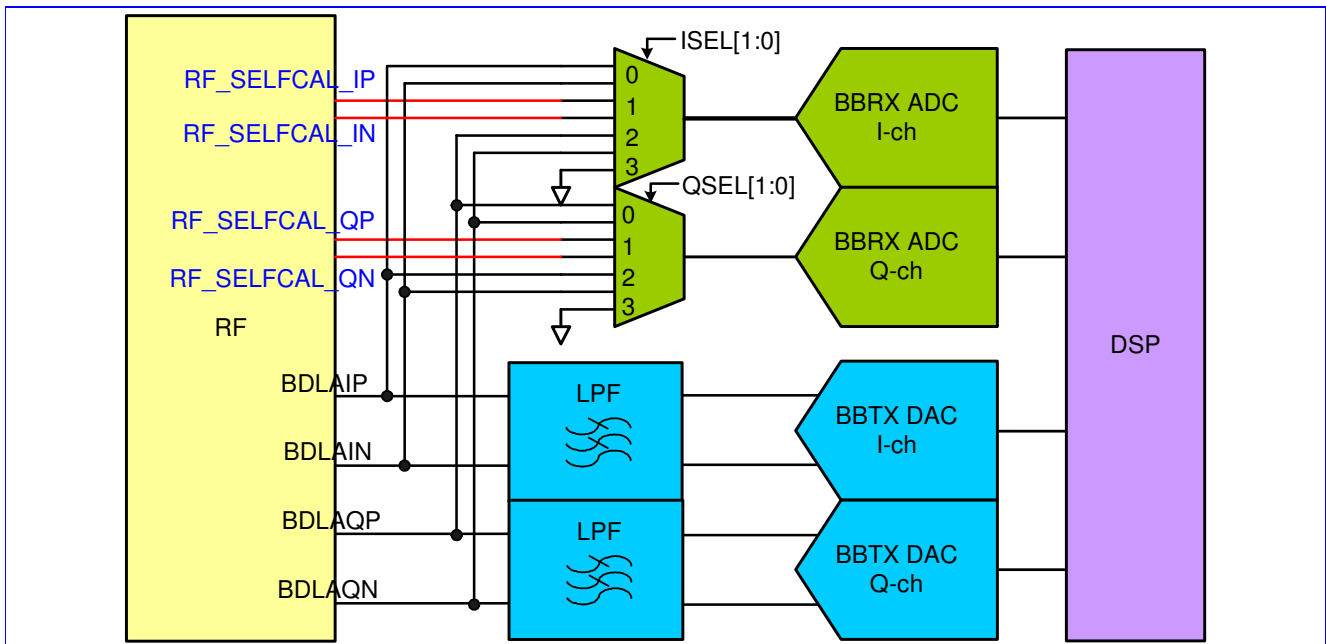

Figure 110 Base-band A/D and D/A Offset and Gain Calibration
The base-band downlink receiver (RX), together with the base-band uplink transmitter (TX) introduced in the next section, provides necessary analog hardware for DSP algorithm to correct the mismatch and offset error. The connection for measurement of both RX/TX mismatch and gain error is shown in **Figure 110**, and the corresponding calibration procedure is described below.